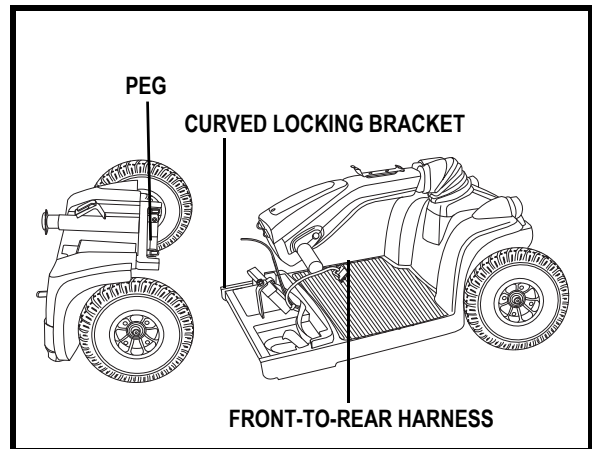

Figure 18. Frame Sections
1. Position the front and rear sections of your scooter as shown in figure 18.
2. Align the lower slots of the front section with the corresponding pegs on the front of the rear section. See figure 18.